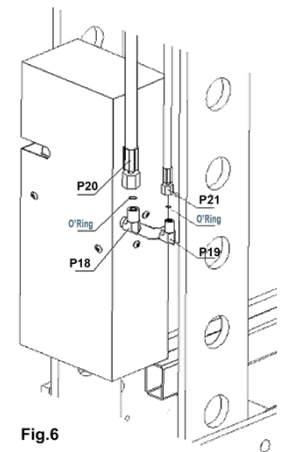

Fig.6
- 11.2.4 Remove the plug from the hose fittings (P18, P19) and oil hose (P20, P21), then connect the oil hose (P20) to fitting (P18) and oil hose (P21) to fitting (P19) and tighten. (refer to Fig.6)